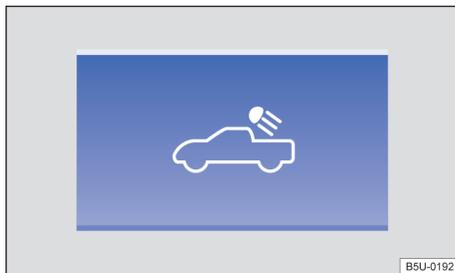

Fig. 66 On the centre console: bed lighting button.
- To **switch on**: press the button → Fig. 66 on the dash panel.
- To **switch off**: press the button → Fig. 66 in the dash panel again, switch the side light off or switch the vehicle ignition on.